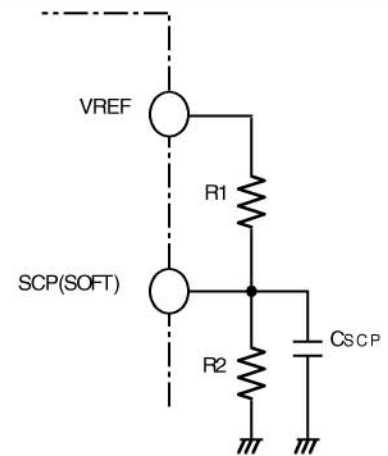

Fig.3
1). Soft start function (Refer to Fig.3 for its application circuit)